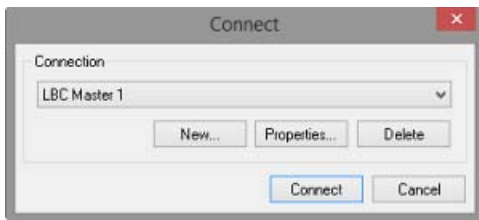

FIG. 415 Connect dialog - with a Connection Setting selected
2. Select the setting that you want to edit from the **Connection** drop-down list (FIG. 415):